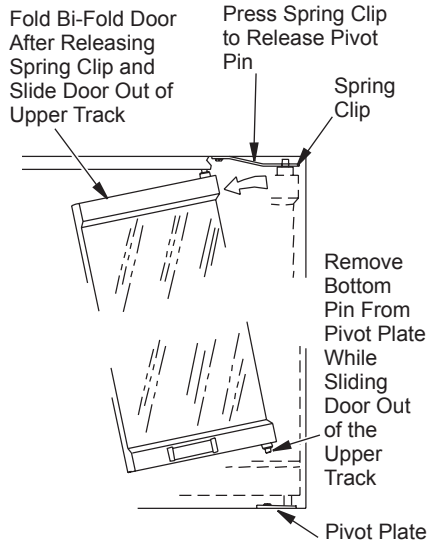

Figure 35 - Removing Glass Doors
2. Fully fold frame assembly and slide upper edge toward center of firebox opening until guide pins are free of frame rail (see Figure 35).